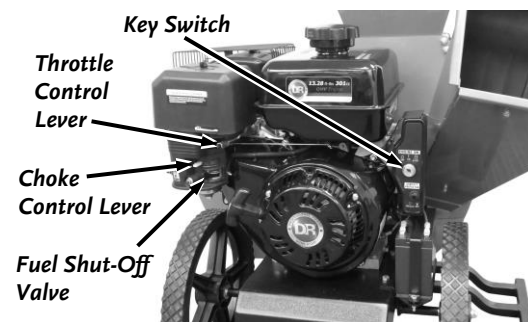

Figure 9b Electric Start
7. **Electric Start** - Turn the Key to START until the Engine starts and then release (**Figure 9b**). The Key will snap back when released and the Engine will continue to run.
- **To stop the Electric Start Engine**, move the Throttle to the Slow (Turtle) position allowing the Engine to idle and turn the Key to the "OFF" position (**Figure 9b**).